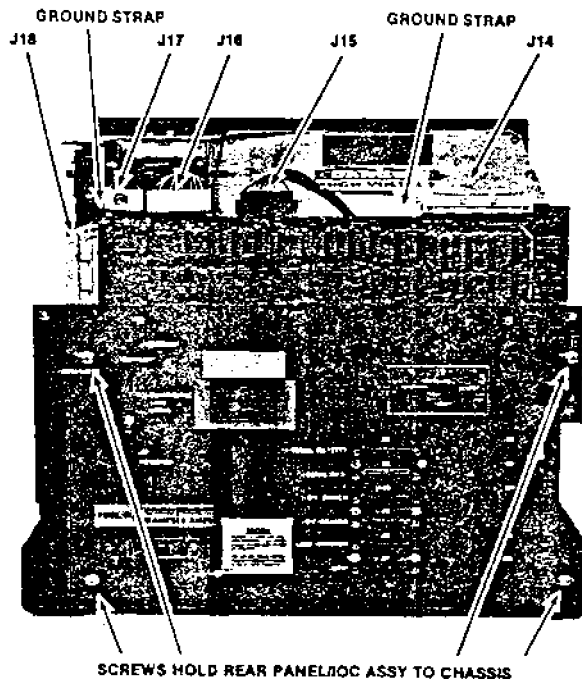

Figure 2-1. Rear Panel Removal
4. Refer to figure 2-1 and disconnect the cables from connectors J14, J15, and J16 and, if the development system includes an integral drive, disconnect the drive interface cables from connectors J17 and J18. Disconnect any associated cable ground braids at the IOC.
6. Refer to figure 2-1 and remove the rear panel mounting screws. Pull the panel away from the development system and, if present, guide the disk controller interface cable out of the chassis.